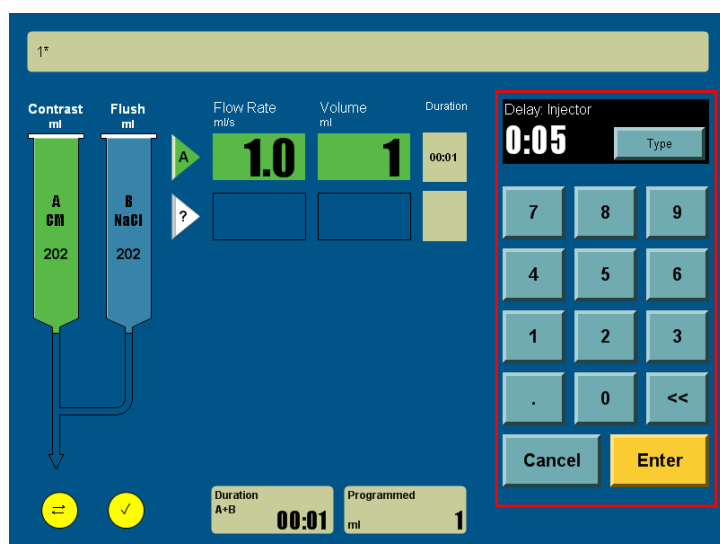

Figure 38
**Injector Delay:** After the Inject key is pressed, the Injector Delay time starts counting by one second increment, see Figure 38. When the injector delay time has been reached, the injection starts automatically.